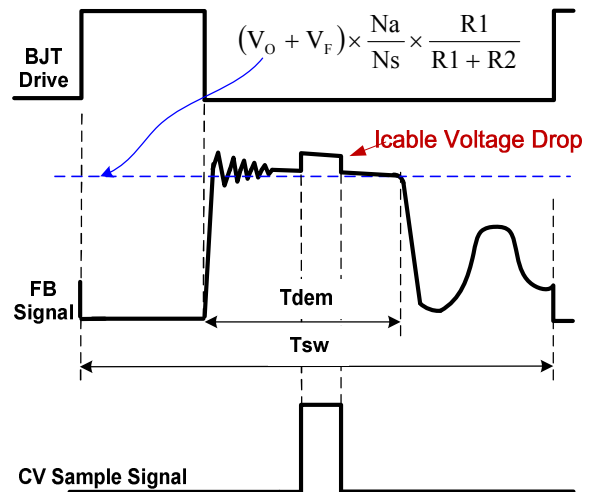

Fig.2
transformer energy to the secondary. Fig.2 illustrates the CV sampling signal timing waveform in DP25136. As shown in Fig.2, it is clear that there is a down slope representing a decreasing total rectifier V_f and its voltage drop as the secondary current decreases to zero. To achieve an accurate representation of the secondary output voltage on the auxiliary winding, the CV sampling signal blocks the leakage inductance reset and ringing. When the CV sampling process is over, the internal sample/hold (S&H) circuit captures the error signal and amplifies it through the internal Error Amplifier (EA). The output of EA is sent to the Primary Side Constant Voltage Modulator (PSR-CVM) for CV control. The internal reference voltage for EA is trimmed to 2V with high accuracy.
During the CV sampling process, an internal variable current source is flowing to FB pin for Cable Drop Compensation (CDC). Thus, there is a step at FB pin in the transformer demagnetization process, as shown in Fig.2. Fig.2 also illustrates the equation for “demagnetization plateau”, where V_o and V_f is the output voltage and diode forward voltage; R_1 and R_2 is the resistor divider connected from the auxiliary winding to FB Pin, N_s and N_a are secondary winding and auxiliary winding respectively.